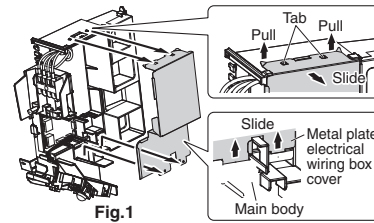

Fig.1
- 2) Remove screw covers (3 pcs.). (See Fig.1)
- 3) Remove the front grille fixing screws (6 screws). (See Fig.1)
(See Fig.1)
- 2) Remove the metal plate electrical wiring box cover. (4 tabs) (See Fig.1)